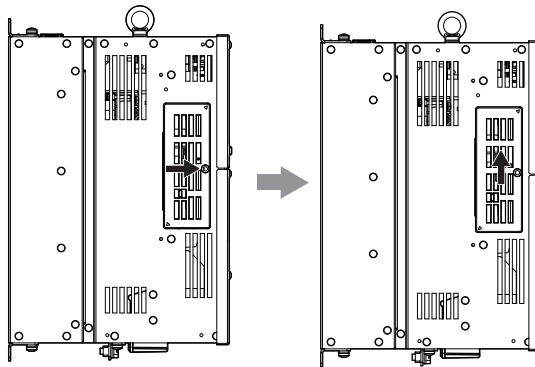

Figure 4.29 Sliding the CN19 Connector Cover
2. Slide the CN19 connector cover from the drive as shown in Figure 4.29.